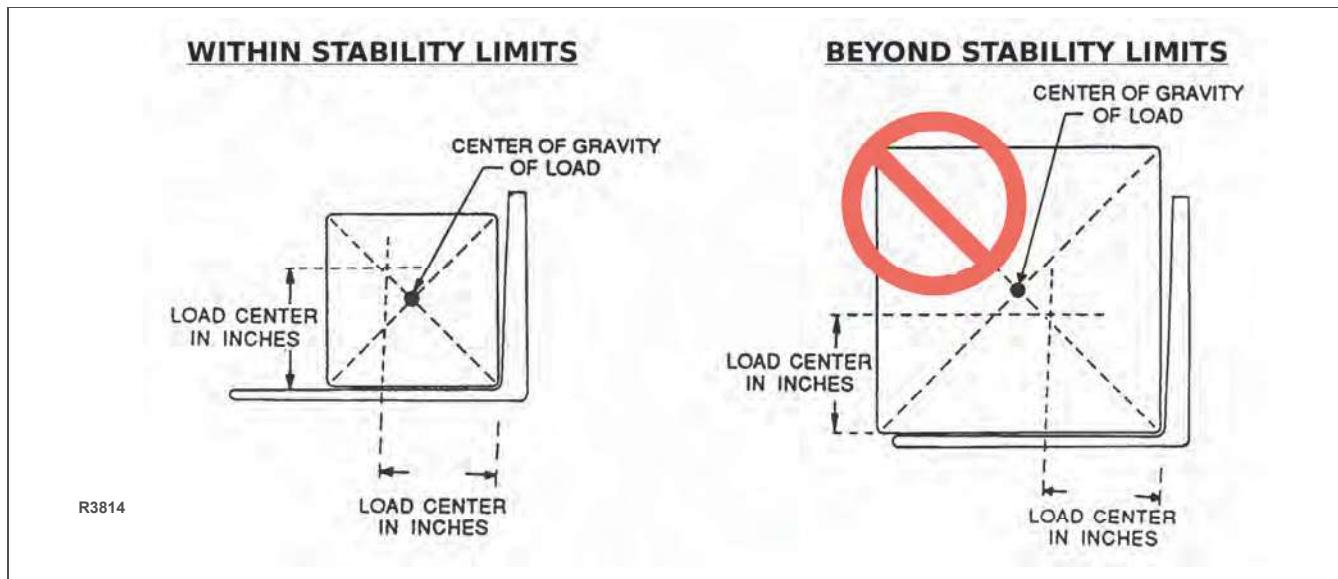

Figure 2-1 Load Center
- Center and carry the load as far back as possible toward the lift carriage back rest. The center-of-gravity of the load must not exceed the load center listed on the data plate. See Figure 2-1 for load center limitations.